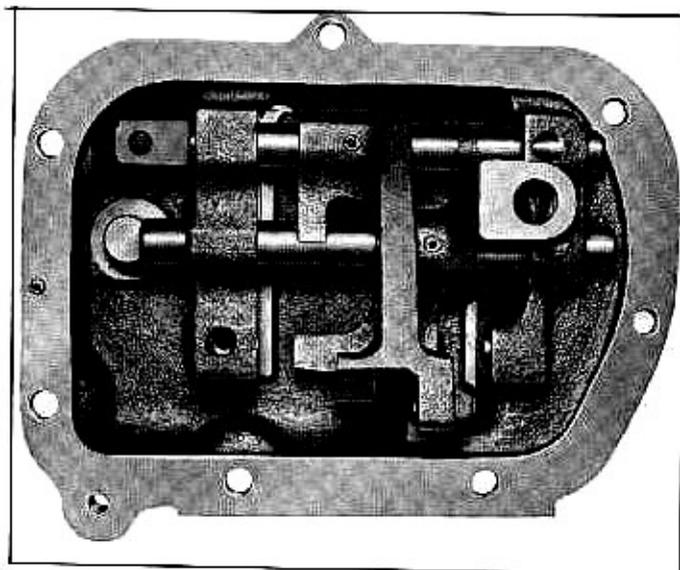

Fig. 4B—Reverse Shifter Shaft & Head Installed to Cover
11. Line up holes in head and shaft; insert pin. (Fig. 4B)